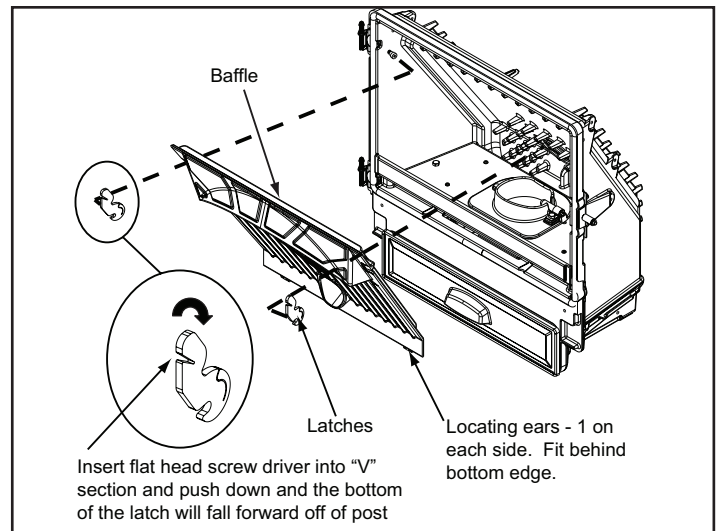

Figure 26.2
4. Remove baffle by placing a flat head screw driver into the slot of the latches located in the upper corners and rotate down. The bottom of the latch will fall forward off of the post. Lift the baffle up and then out toward you (Figure 26.2).